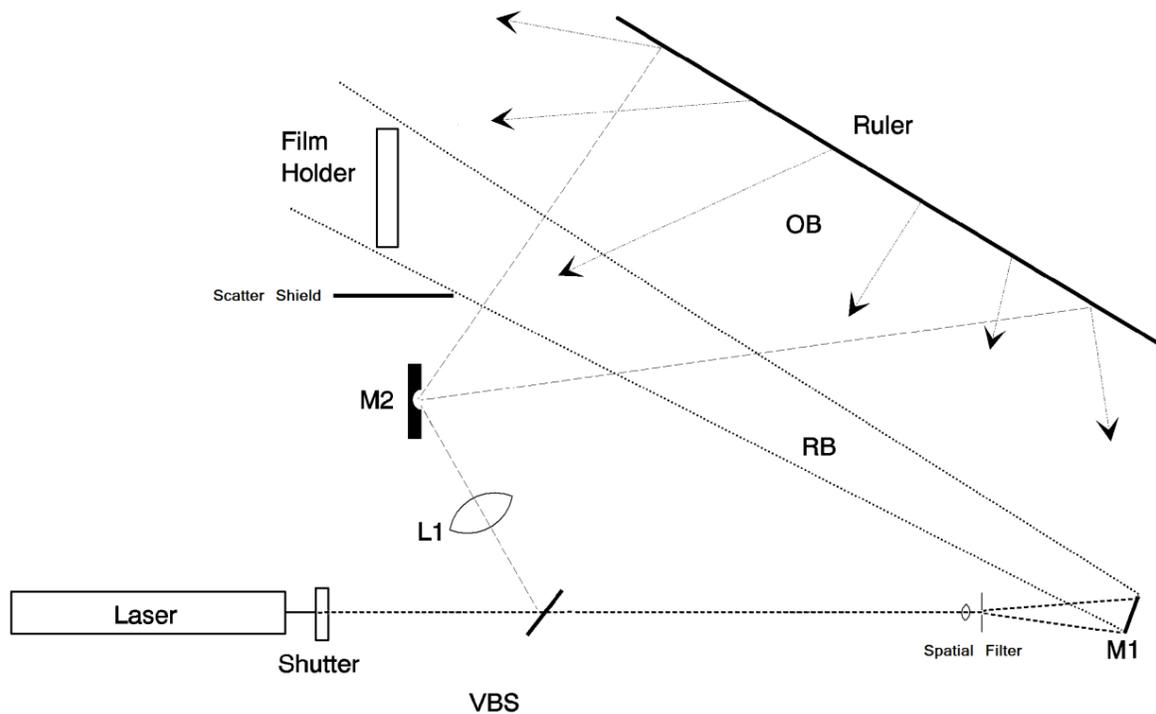
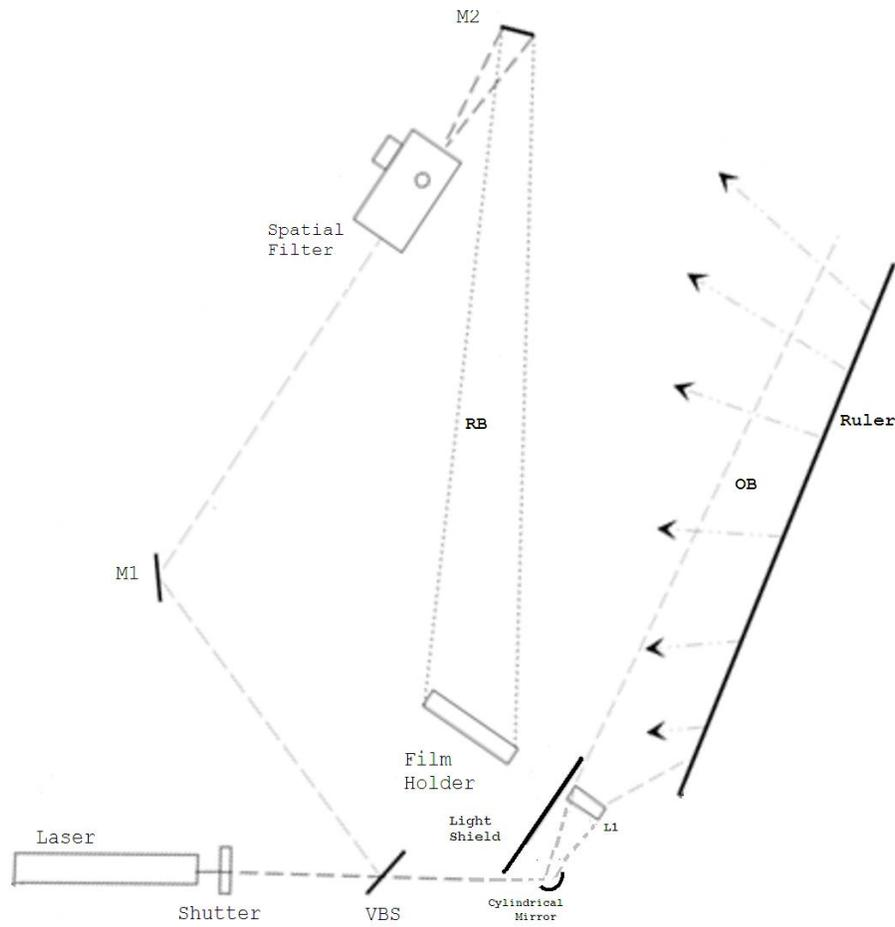

Figure 1. Possible set up for coherence length determination via holography.
Figure 2. Alternate set up. This would require shorter exposure time, since the object beam is brighter than the one in the set up of Figure 1.
Two possible arrangements for the holography experiment are shown in Figures 1 and 2. In Figure 1, the beam transmitted through the beam splitter acts as the reference beam (RB). In Figure 2 the transmitted beam acts as the object beam (OB). Since the transmitted beam is usually more powerful than the reflected beam in a beam splitter, the set up in Figure 2 gives a brighter object overall and therefore less exposure time. However, either set up is acceptable.